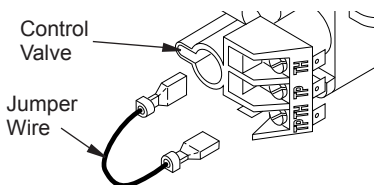

Figure 19 - Disconnecting Wires From Control Valve
1. Disconnect jumper wire from control valve (see Figure 19).